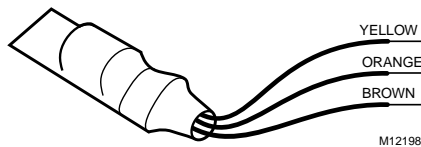

Fig. 4. 209541B FTT termination module.
- Properly install the 209541B FTT Termination Module, see Fig. 4 through 7.
The FTT network segment requires termination for proper data transmission performance. Use a 209541B FTT termination module. Free topology (singly terminated) segments use the yellow and brown wires. Daisy-chain (doubly terminated) segments use the orange and brown wires. See Fig. 4.